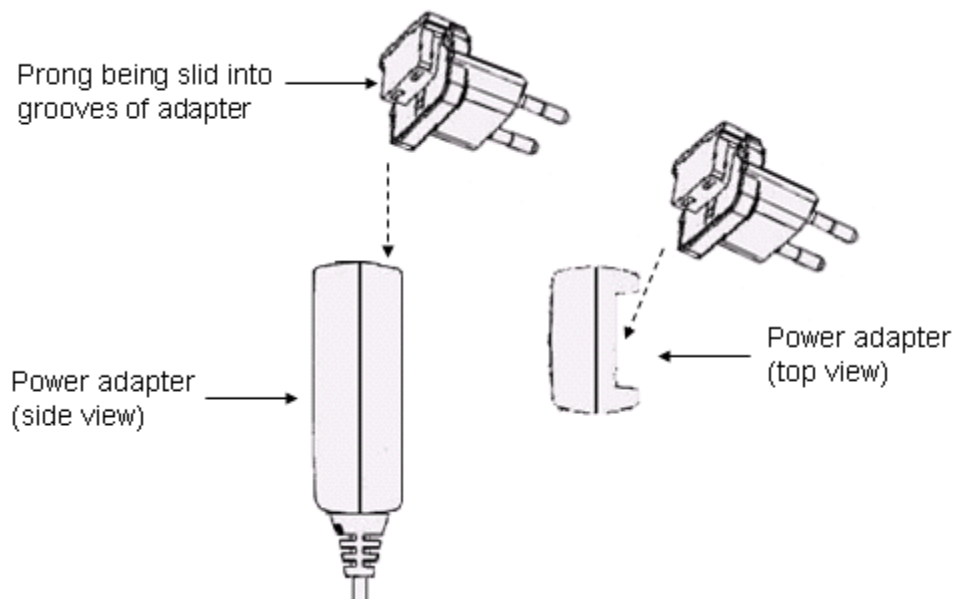

Figure 6-1: Replacing AC/DC power adapter plug prongs
2. Align the desired prongs with the adapter's prong groove, and then slide the prongs onto the adapter in the orientation as shown in the Figure 6-1. Ensure that the prongs reach the end of the prong groove.